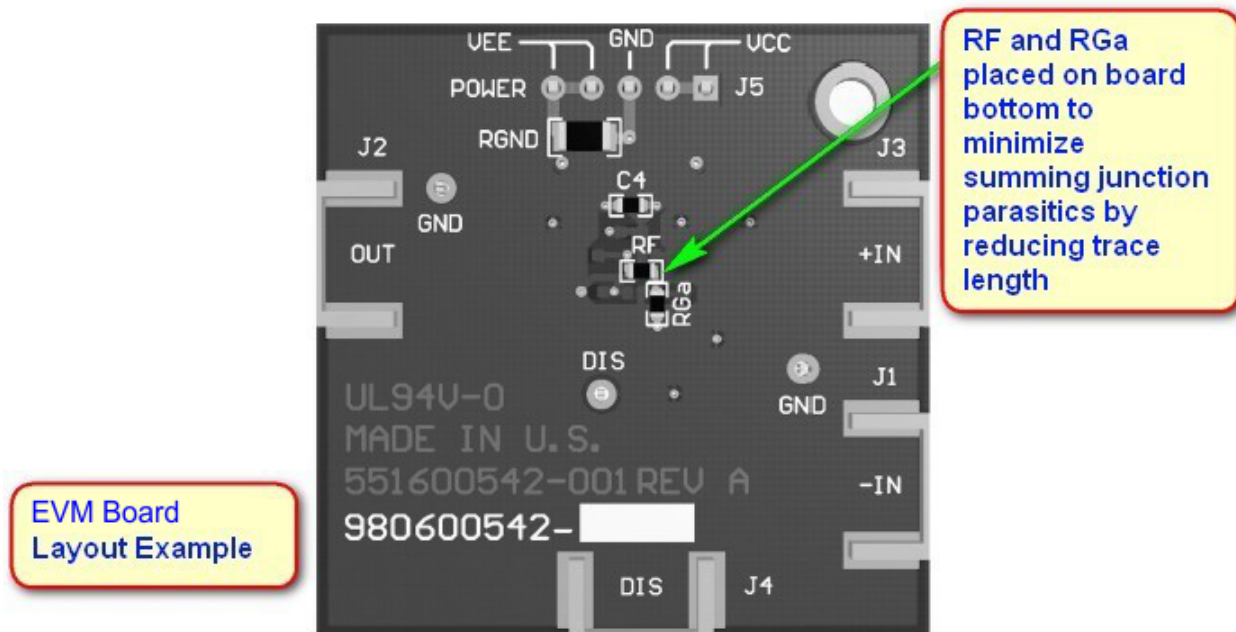

Figure 59. LM8261 Evaluation Board Layer 2
- The input summing junction is very sensitive to parasitic capacitance. Connect any  $R_f$  and  $R_g$  elements into the summing junction with minimal trace length to the device pin side of the resistor, as shown in Figure 59. The other side of these elements can have more trace length if needed to the source or to ground.